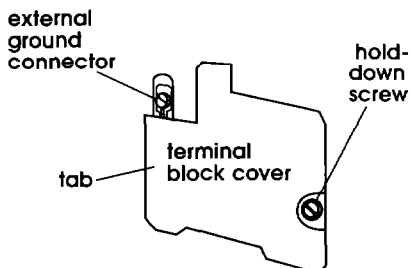

Figure 6
6. Insert tab of terminal block cover into slot of the dryer rear panel (see Figure 6). Secure cover with hold-down screw.